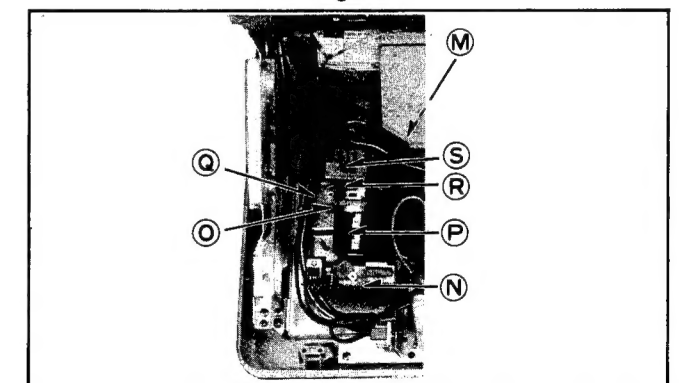

Fig. 13
- 3) Remove the anode lead (M) from the high voltage distributor shown in fig. 13.
- 4) Remove the LR printed circuit board (N) in fig. 13.
- 5) Remove the retaining screw of the neck shield (O) and remove the neck shield (P) in fig. 13.
- 6) Remove the retaining screw of the deflecting coil (Q) and draw out the centering magnet (R) and the deflecting coil (S) in fig. 13.